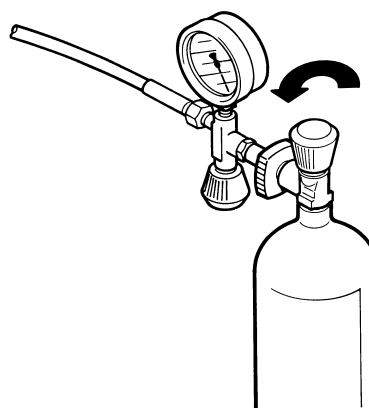

Fig. 23 Connecting air bottle
- Connect air bottle to filling valve (see Fig. 23).